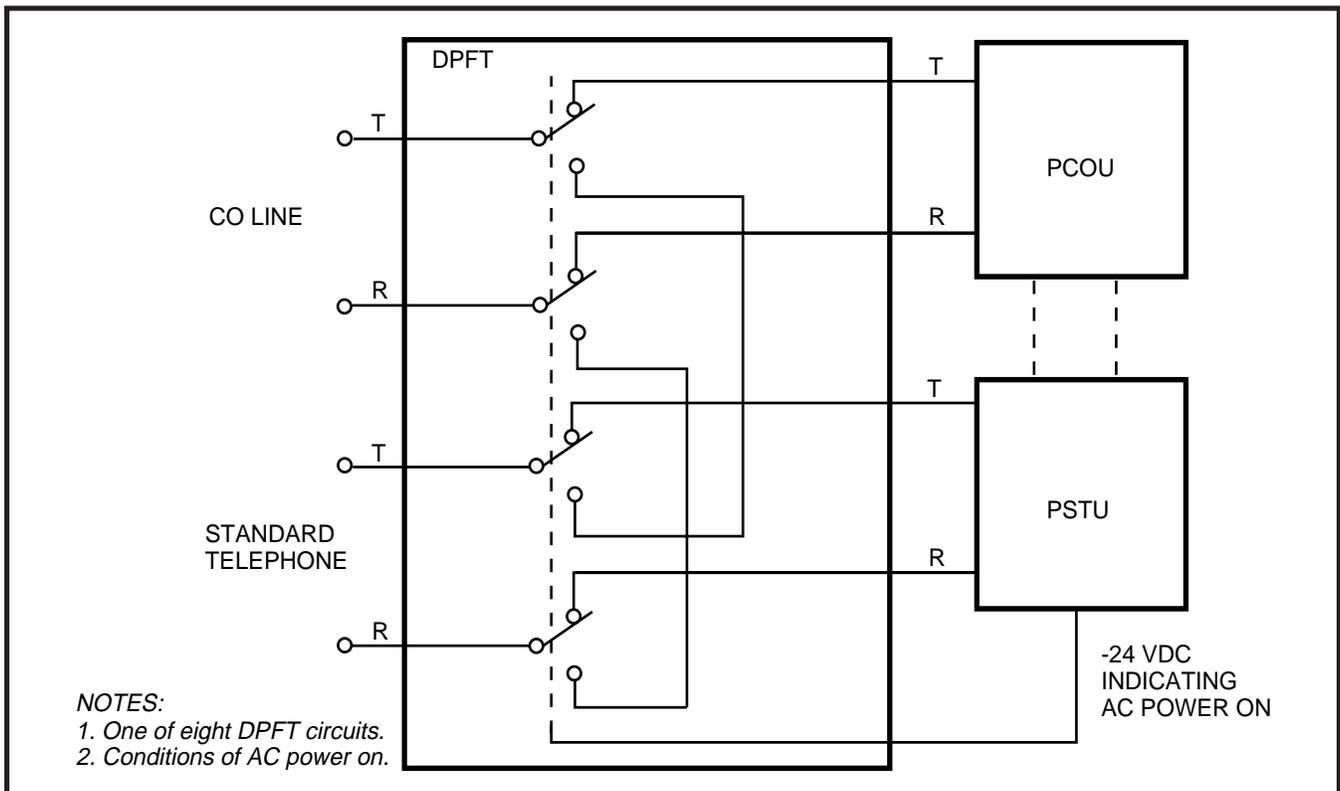

FIGURE 2-9
5.02 The DPFT consists of eight normally open relays, connecting the telephones to PSTU (Standard Telephone Interface Unit) printed circuit board PCB circuits and the CO lines to PCOU (CO Line Unit) PCB circuits (Figure 2-9). If a power failure occurs, the relays close, connecting the telephones directly to the CO lines. Calls can then be placed from the selected standard telephones over the CO lines, completely bypassing the system.